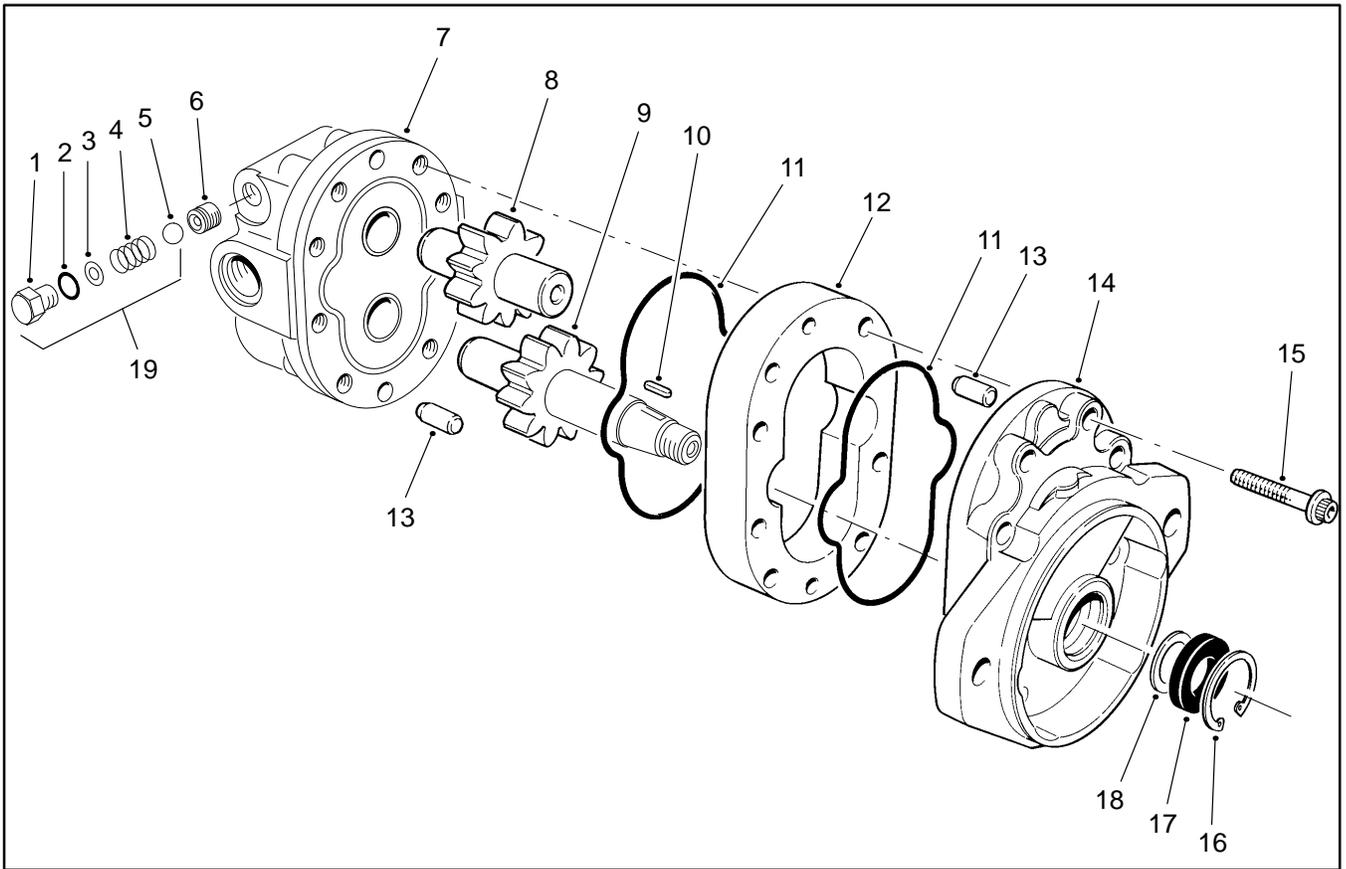

Figure 56
**Disassembly (Fig. 56)**
1. Make sure key (10) is removed from the drive gear (9) shaft.
2. Matchmark frontplate (14), body (12), and backplate (7) to assure proper reassembly.
4. Remove all eight screws (15).
5. Remove the motor from the vise. Remove the frontplate (14) from the body (12). A wooden block or soft face hammer might be used the gently tap the motor when freeing the frontplate (14).
6. Remove alignment pin (13) from the body (12). Remove drive gear (9) and idler gear (8) from the body (12).
7. Remove body (12) from the backplate (7). Remove O-rings (11) from the body (12) and backplate (7).
8. Remove Alignment pin (13) from the backplate (7).
9. Remove retaining ring (16), oil seal (17), and backup washer (18) from the frontplate (14).
**IMPORTANT: Do not remove the relief valve assembly (19) unless testing shows it to be faulty. The relief valve assembly must be replaced as a complete unit. Both relief valve seals (6) are sealed in place with loctite; do not remove them.**
### Inspection (Fig. 56)
### Reassembly (Fig. 56)